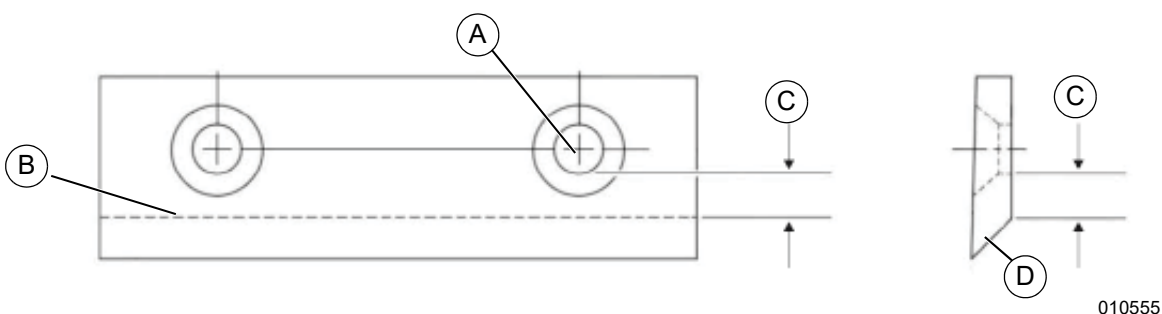

Figure 4-8. Knife Sharpening
- See Figure 4-8. The 45° cutting angle (D) must be maintained for proper performance.
- A new chipper knife has a 5/16 in (8 mm) measurement (C) between the short side bevel edge (B) and the knife mounting holes (A).